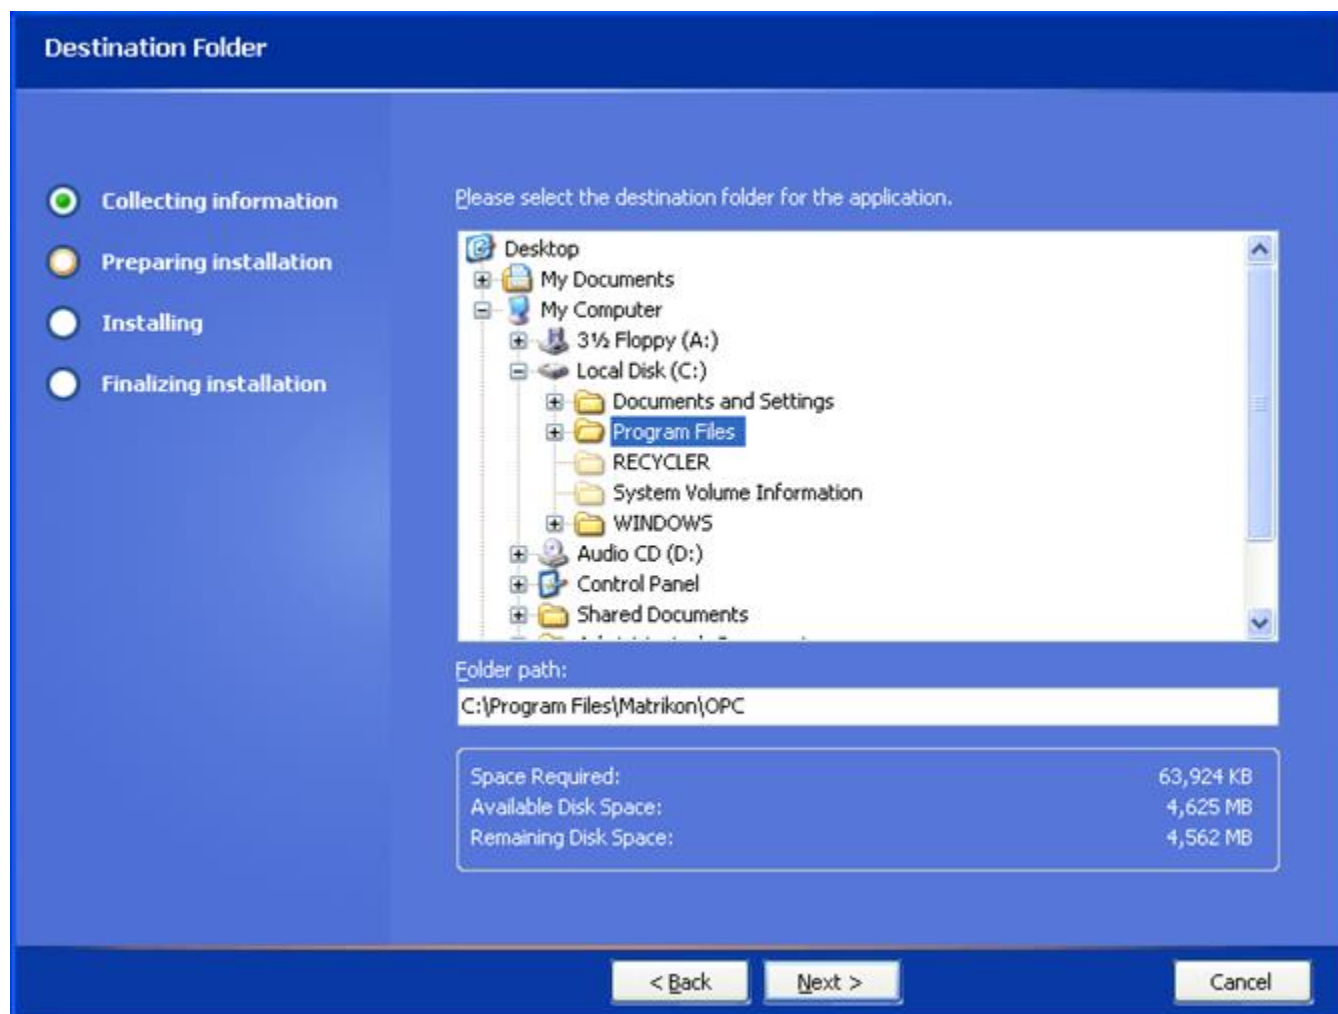
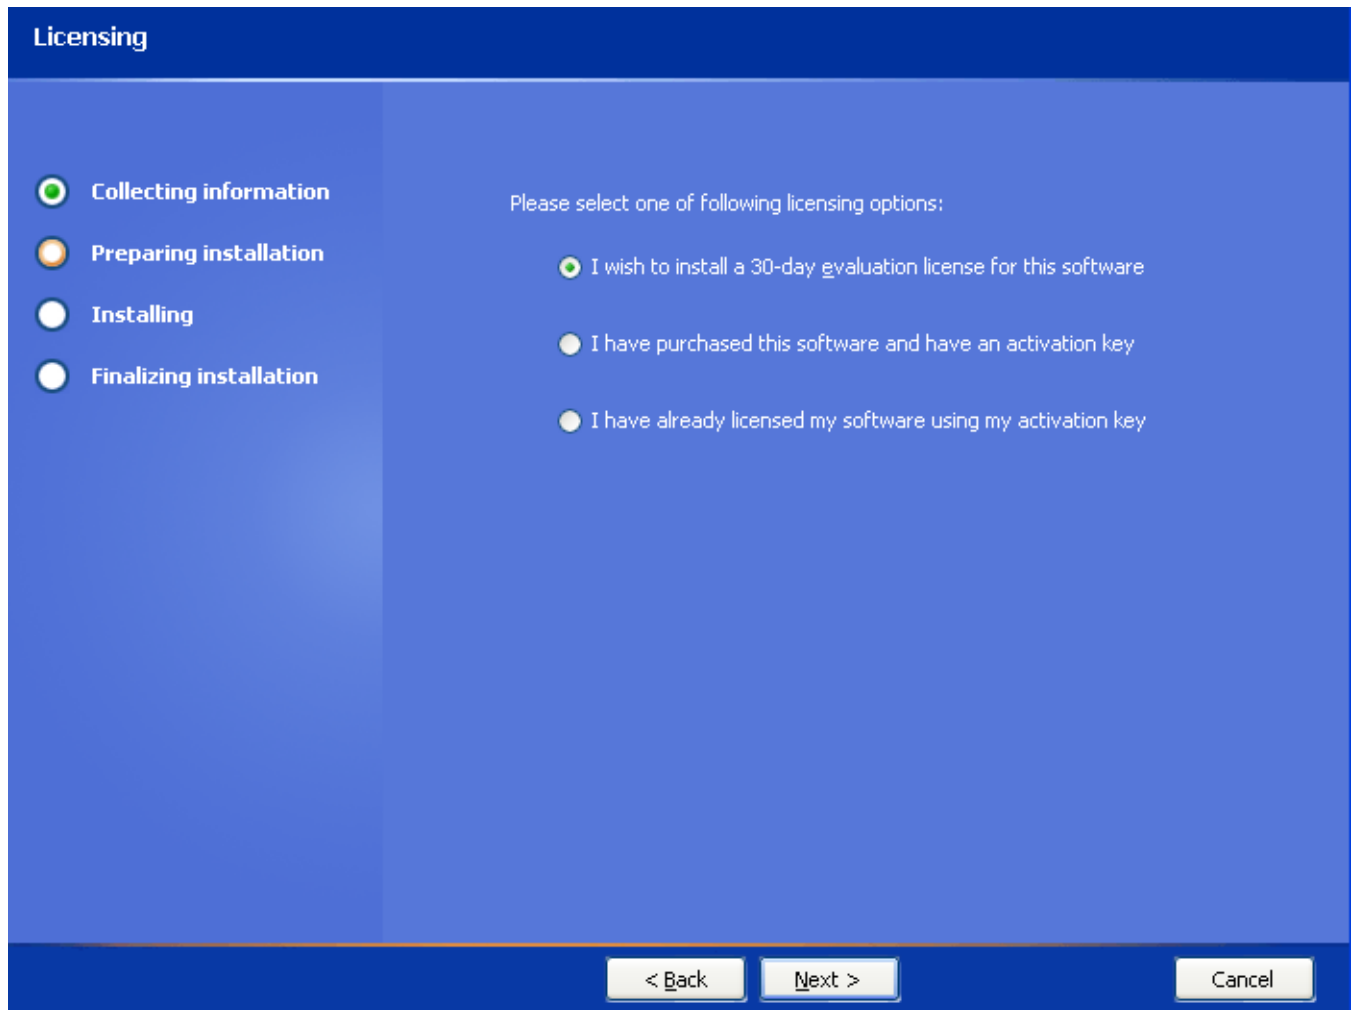

Figure 92 - Destination Folder Screen
Figure 95 - Licensing Screen
10. Click on the **Next** button. If you selected Express Setup, the **Licensing** screen (Figure 95) appears, otherwise the **Destination Folder** screen (Figure 92) appears.
16. Click on the **Next** button to accept the default password. The **Licensing** screen (Figure 95) appears.